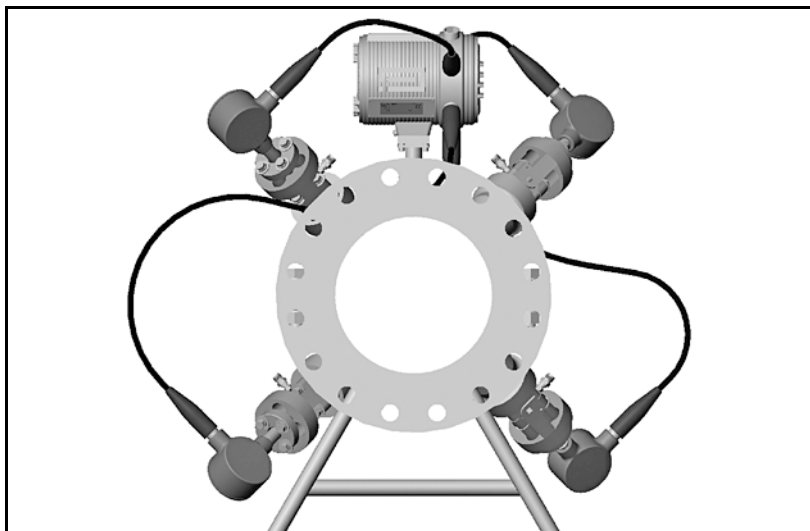

Figure 10: Sentinel End View - Mounting Flange
- Make sure the Sentinel is oriented with the flow transmitter in a vertical position at the top (see Figure 10 on page xxiii).
3. Align the flange mounting holes (see Figure 10 below).